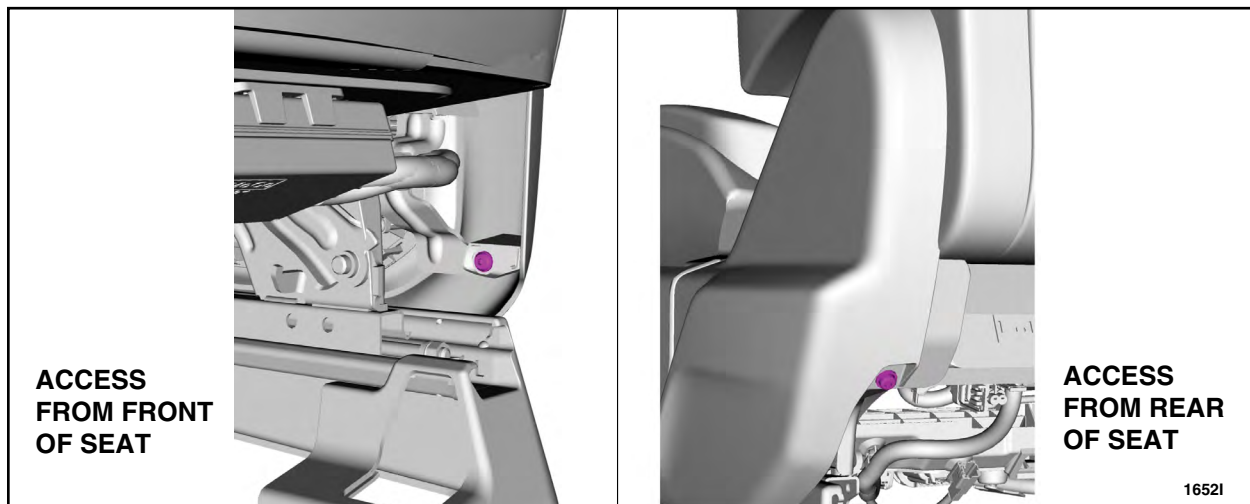

FIGURE 14
5. Remove the two side shield screws. See Figure 14.